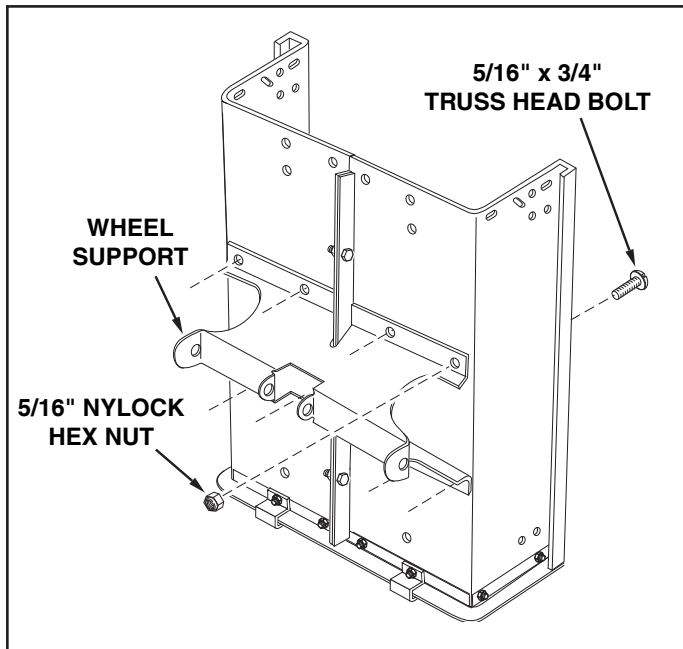

FIGURE 4
7. Assemble the wheel support to the bottom of the cart using eight 5/16" x 3/4" truss head bolts and 5/16" Nylock hex nuts as shown in figure 4. Heads of bolts go on the inside of cart. **Tighten.**